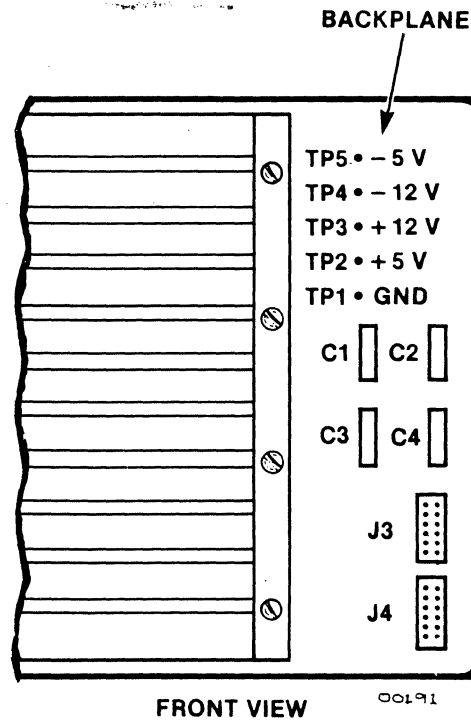

Figure 5-9. Power Supply Voltage Test Points
3. Test points on backplane are accessed from top of module at right rear of card cage (Figure 5-9).